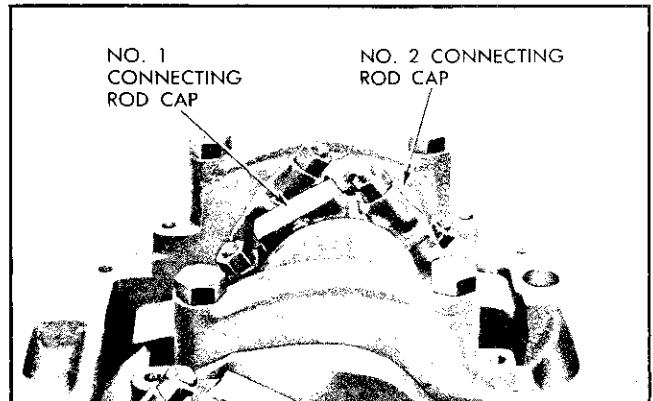

Fig. 6-111 Crankshaft Positioned For Removal of No. 1 and No. 2 Connecting Rod Caps
pin carrying bearing to be replaced straight down (Fig. 6-111).
3. Rotate crankshaft so crankpin carrying assembly to be replaced projects straight downward (Fig. 6-111).